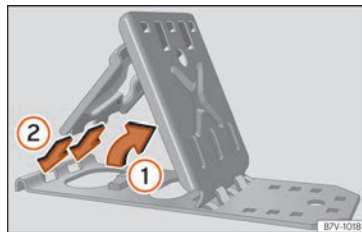

Fig. 40 To unfold the foldable wedges.
- Lift the base plate »» Fig. 40 ①.